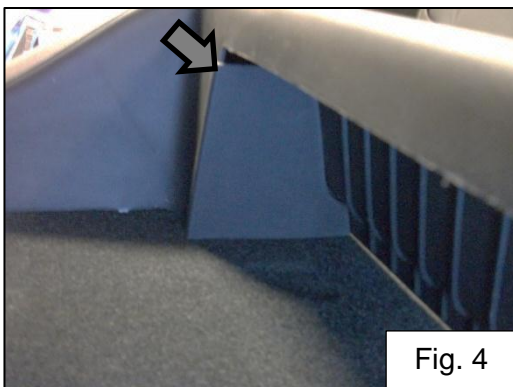

Fig. 4
6. Remove the driver side front and rear threshold panel along the bottom of the door opening. Fig. 4
7. Remove the filler panel on each side of the rear seat frame trim panel. Fig. 4